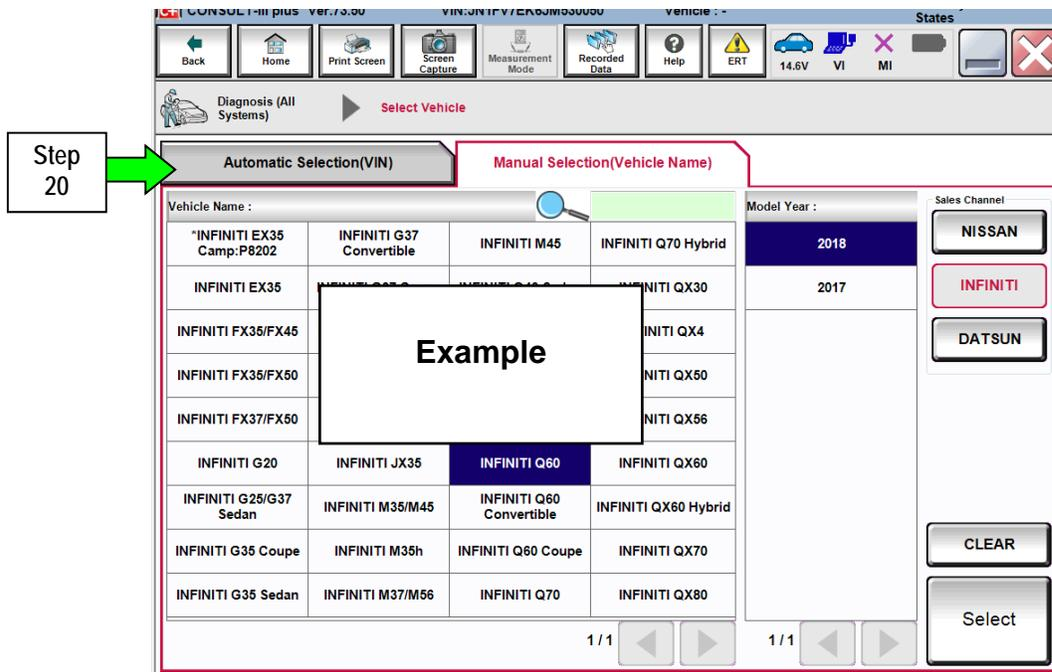

Figure 10
20. If the screen in Figure 10 displays, select **Automatic Selection (VIN)**.
- If the screen in Figure 10 does NOT display, skip to Step 21.